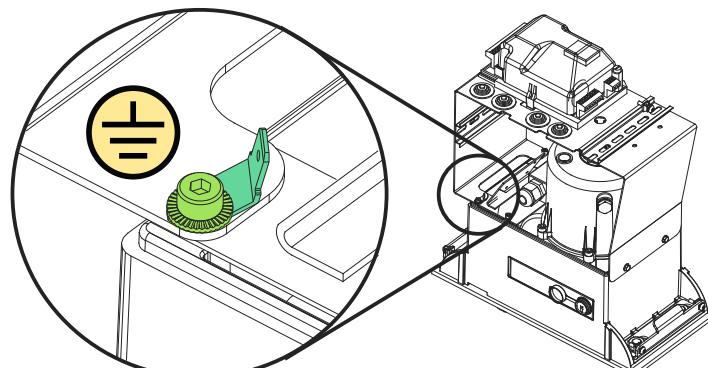

Fig. 19
11.1. Before connecting the operator, ensure that it is earthed, as shown in Fig. 19 or Fig. 20, depending on the model in use.